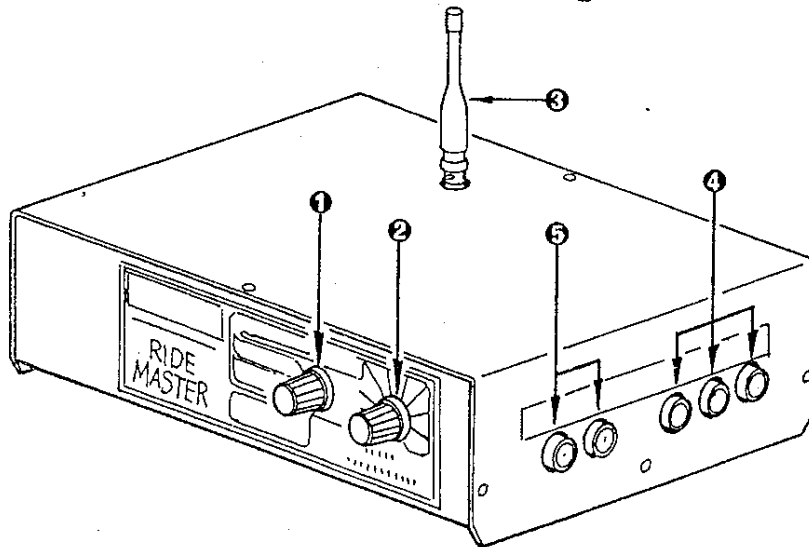
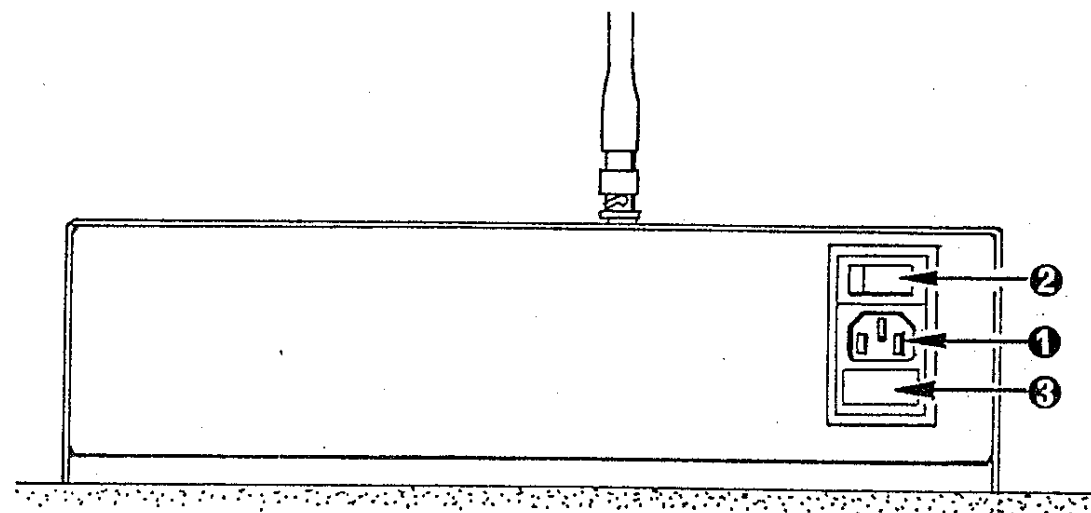
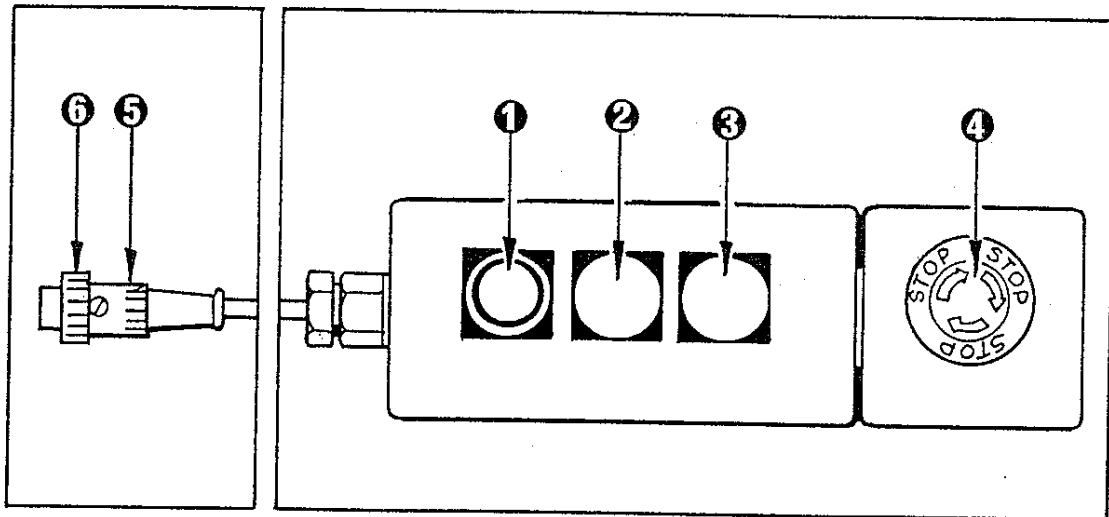

Fig. 1 - Transmitter Front & Side View
Fig. 2 - Transmitter Rear View
Fig. 3 - Button Unit
The principal features of the Transmitter are shown in Figures 1 & 2 below.
The principal features of the Button Unit are shown in Figure 3 below.
5. Ensure that the aerial is correctly fitted (Fig 1 item ③).
6. Set the Ride Time selector (Fig 1 item ②) to 2 minutes.
7. Set the Mode selector (Fig 1 item ①) to Individual Play.
8. Connect the Button Unit (Fig 3) to the Transmitter (Fig 1 item ④) by inserting the Button Unit Connector (Fig 3 item ⑤) into any of the Button Unit Sockets (Fig 1 item ④). Note the correct alignment of the plug and socket. The Connector Collar (Fig 3 item ⑥) should then be tightened one quarter turn clockwise.
9. Insert the mains lead supplied into the mains socket on the rear of the Transmitter (Fig 2 item ①).
10. Turn on the Transmitter Power Switch (Fig 2 item ②). The red Finish Light (Fig 3 item ⑦) on the Button Unit should be lit.
The Transmitter is fitted with Facility Sockets (Fig 1 item ⑤). These may be used to control ancillary equipment for e.g. emergency lighting, automatic announcements etc. For further details please contact Tornado International Ltd. If you have ordered a facility unit it should be connected to either of the Facility Sockets and then follow the instructions supplied with the unit.
1. Set the Mode Selector (Fig 1 item ❶) to Session Play - Pay Attendant.
3. Whilst the ORBITERS are still running turn off the Transmitter Power Switch (Fig 2 item ❷). All of the ORBITERS will stop. This will simulate a mains/Transmitter failure.
- ◆ The Transmitter Ride Time selector (Fig 1 item ②) is effective in Session Play modes only.
1. Set the Transmitter Mode selector (Fig 1 item ①) to Individual Play.
4. Switch on the Transmitter at the Power Switch (Fig 2 item ②).
Tip! It is useful to have the Transmitter Ride Time selector (Fig 1 item ②) and the ORBITER Control Unit - Time per Play selector (Fig 4 item ②) set to the same value. This allows you to change between modes without changing any time settings.